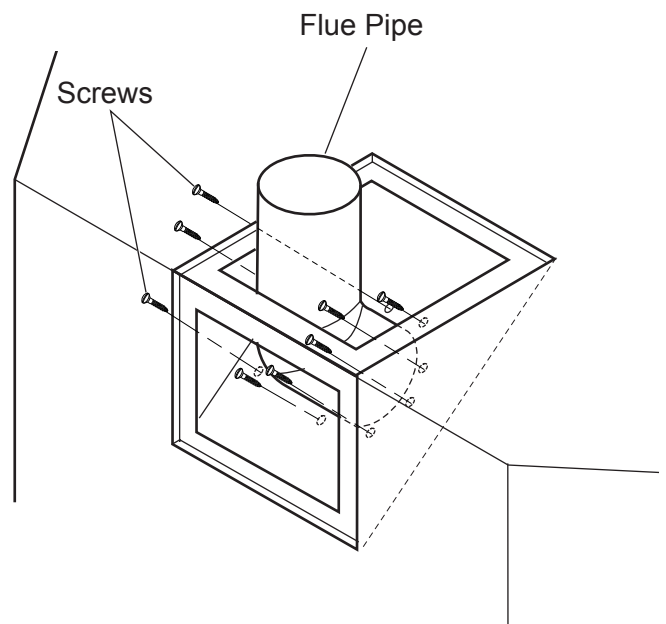

Figure 15 - Attaching Flue Pipe to Top Vent Configurations
5. Replace flue pipe to top of firebox. Ensure the gasket is in place and undamaged. Secure with eight (8) screws. *See Figure 15.*
7. Refit the flue pipe adapter and gasket to the top of fireplace. Secure the adapter with eight (8) screws removed in step 1.